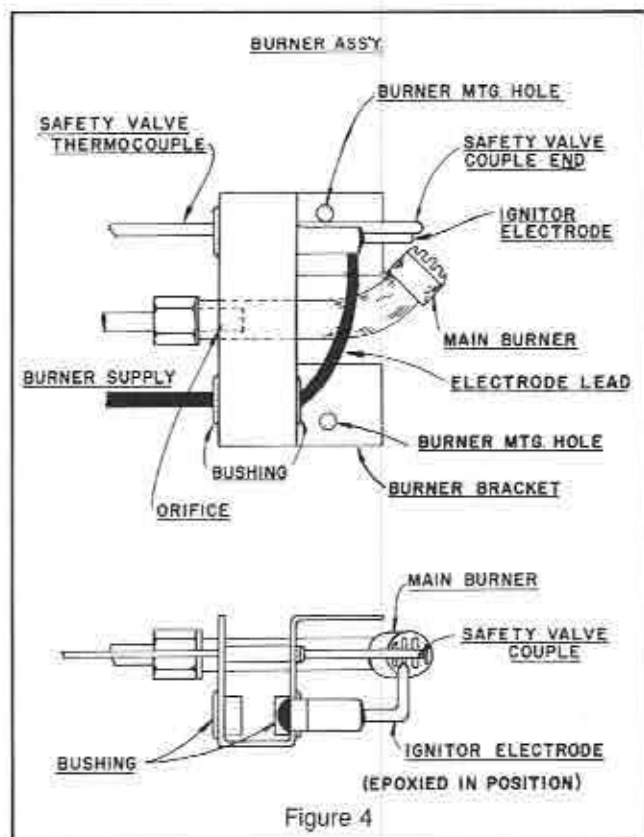

Figure 4
2. Study the exploded view of the orifice assembly, Figure 3 and of the burner, Figure 4.